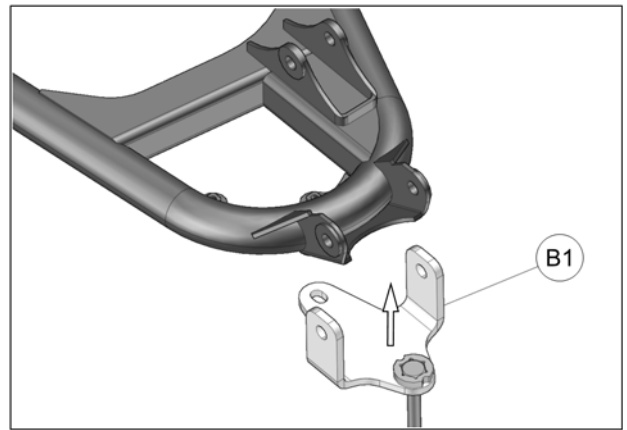

Fig. 7
6. Install the anchor bracket (**B1**) under the suspension arm. See Fig. 7